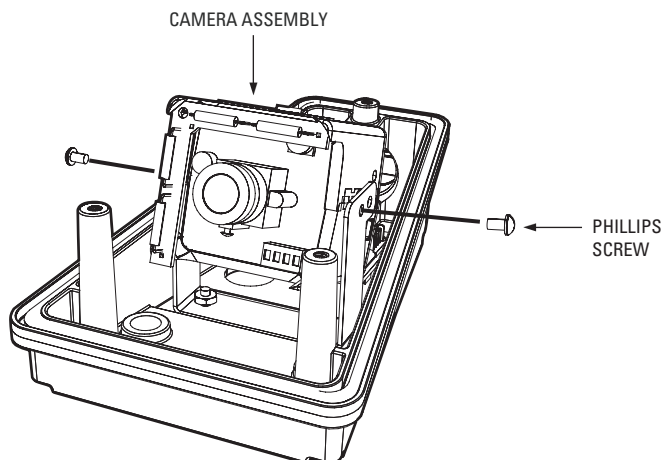

Figure 2. Removing Camera Module
2. Remove the camera assembly from the base by removing the Phillips screws on each side of the camera assembly (refer to Figure 2).